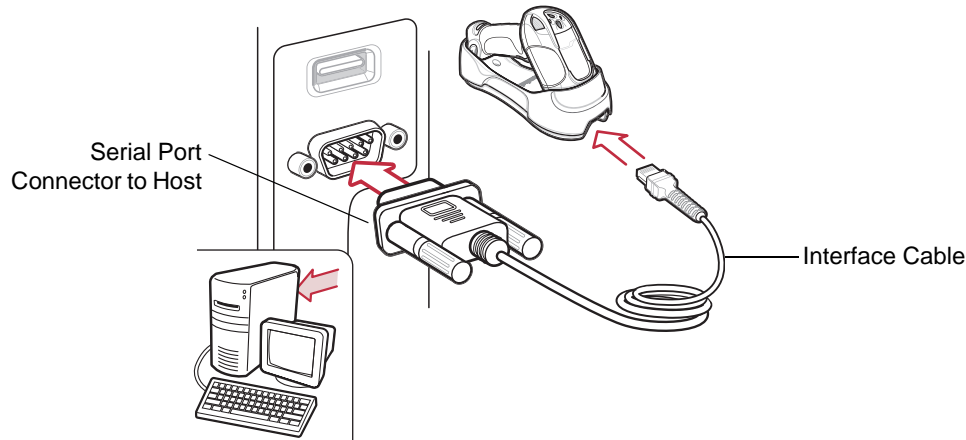

Figure 7-1 RS-232 Direct Connection
- ✓ **NOTE** Interface cables vary depending on configuration. The connectors may be different from those illustrated in Figure 7-1, but the steps to connect the digital scanner cradle are the same.